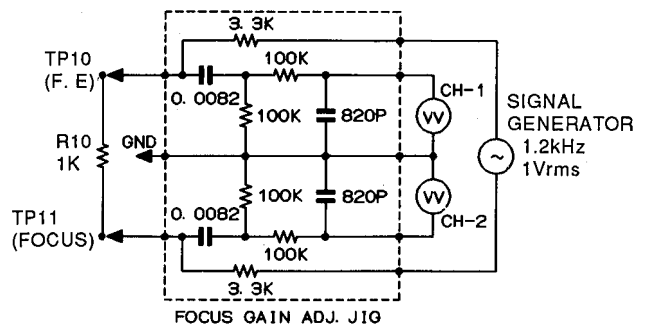

Figure 5-3 FOCUS GAIN
*2: Apply sine wave (Oscillation Frequency:1.2kHz1.0Vrms) as shown in Figure 5-3.